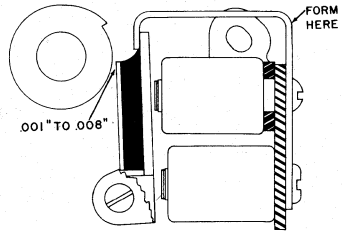

Figure 17
5. The armature stop should be formed to permit the armature to be as close to the low surface of the clutch sleeve as possible without touching it (.001" to .008") (Figure 17).